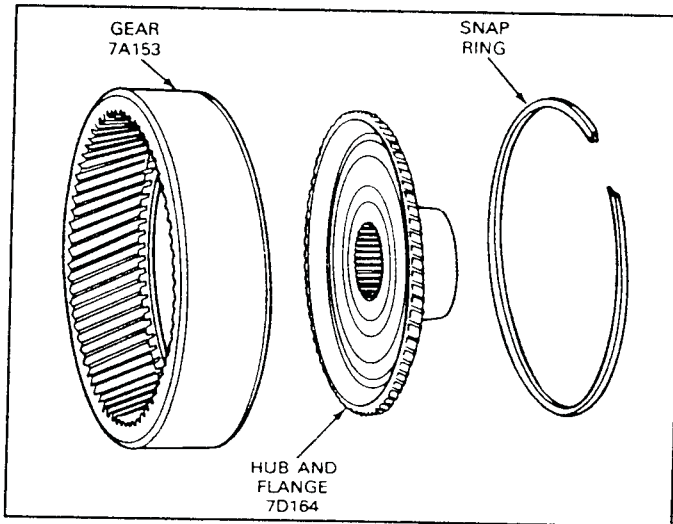

FIG. 55 Output Shaft Hub and Ring Gear
1. Remove the hub snap ring (Fig. 55) from the ring gear.